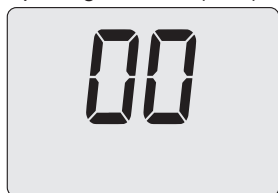

Figure 8.6
- By using buttons 15 or 16 (Figure 8.2) it is possible to modify the value of parameter A01 (Figure 8.6).